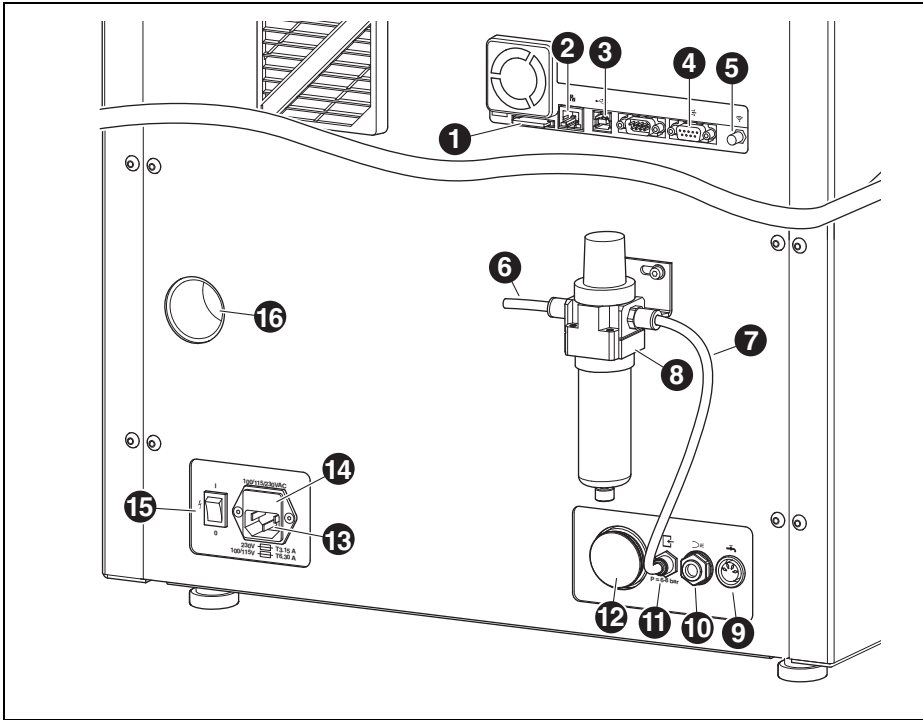

Fig. 2 Machine overview, rear
- ▷ Pull out drawer ([14] in Fig. 2 on page 43) above the mains plug.